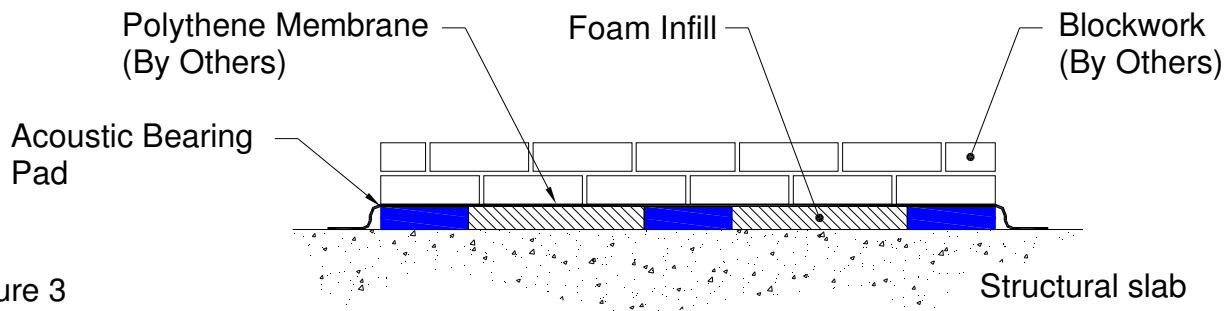

Figure 3
- 5) For blockwork walls the mortar should be allowed to cure for two courses only before proceeding with further courses (See Figure 3).